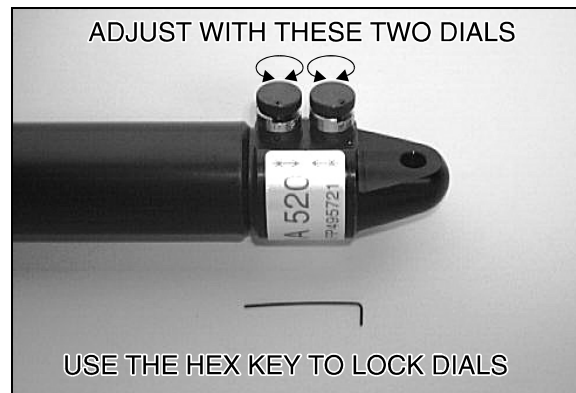

FIGURE 4
14. To adjust opening and closing cycles speeds on damper (Fig. 4): turn the dials one position, open and close the door, and repeat since desired opening and closing speeds of the door are obtained (best position are between 3 and 5 on the dials). Use the hexagonal key provided to lock the dials.